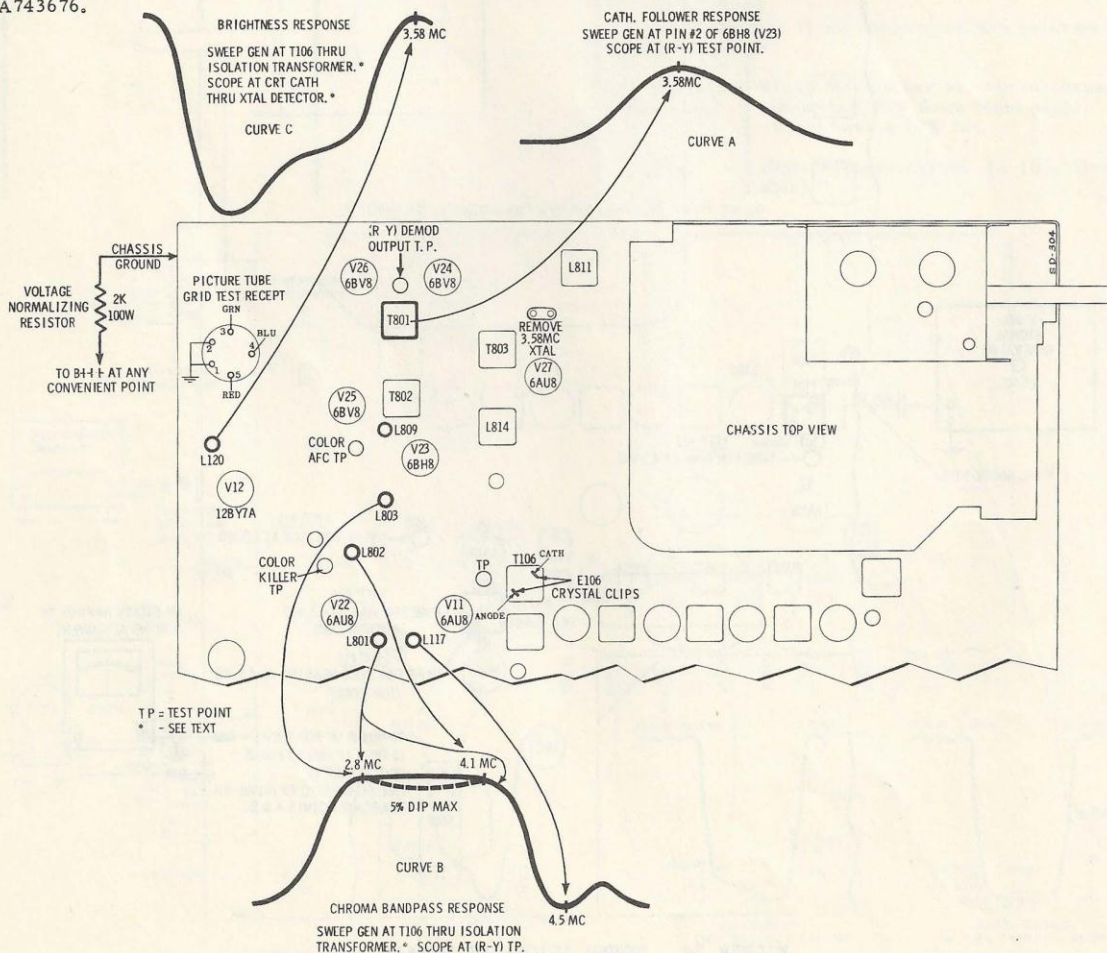

FIGURE 25. CHROMA BANDPASS ALIGNMENT DETAIL
F. Refer to Chroma Alignment Detail for the following procedure (Fig. 25).
- B. Refer to Chroma Alignment Detail for coil and test point locations (Fig. 25).